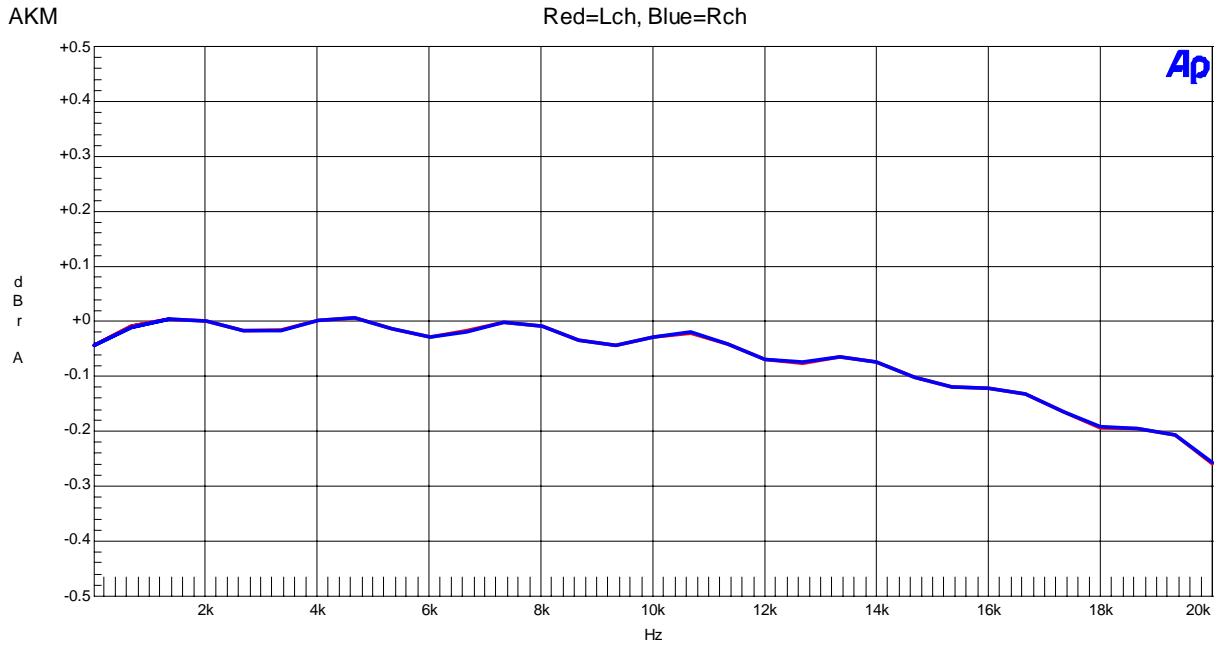

Figure 30 Frequency Response (Input level=0dBFS)
- Figure 30 Frequency Response (Input level=0dBFS)